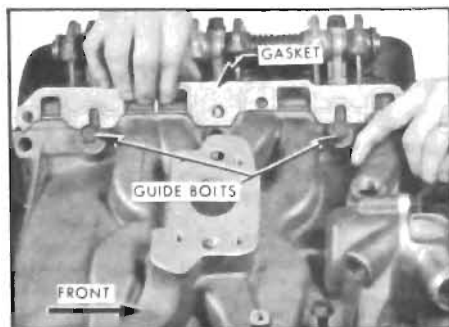

Figure 2-64—Installing Intake Manifold Gasket
16. Lift the manifold slightly and slip the gaskets into position as shown in Figure 2-64. Take care to see that the gasket is installed with the intake ports aligned with the head and manifold. The gasket should be installed as shown in Figure 2-64 on the left side and reversed for the right side installation.